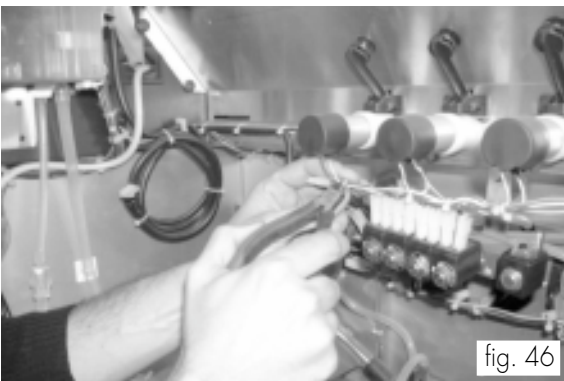

fig. 46
- Remove the clamp (fig. 46) that fastens the two unused cables.